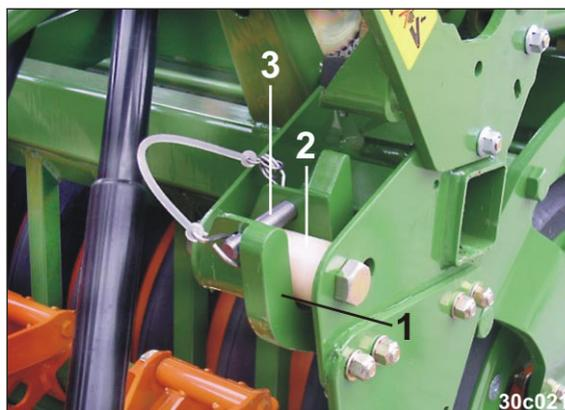

Fig. 110
4. Attach the bearing sleeves (Fig. 110/2) with the catching sockets (Fig. 110/1).
6. Fix the connection with pins (Fig. 110/3) and secure with a spring cotter pin.